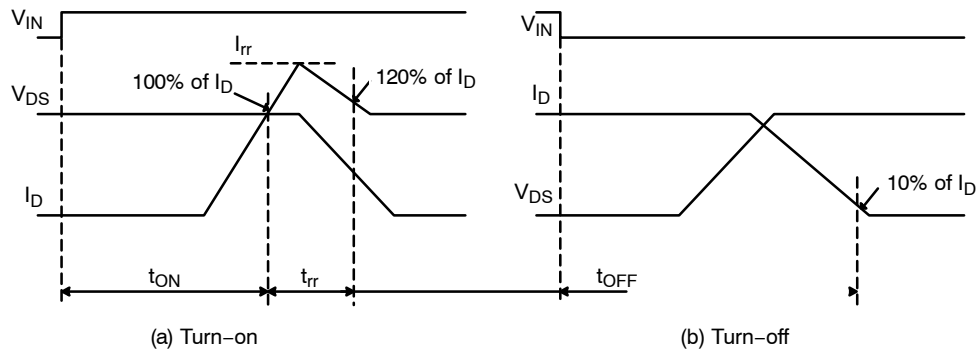
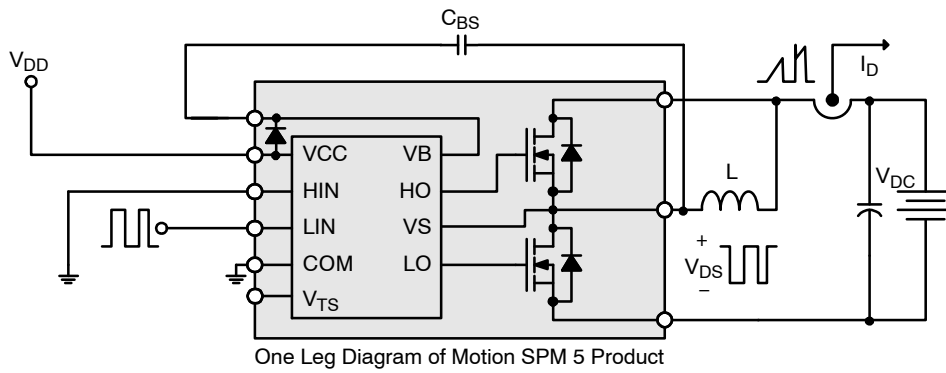

Figure 6. Switching Time Definitions
Figure 7. Switching and RBSOA (Single-Pulse) Test Circuit (Low-Side)
5.  $t_{ON}$  and  $t_{OFF}$  include the propagation delay of the internal drive IC. Listed values are measured at the laboratory test condition, and they can be different according to the field applications due to the effect of different printed circuit boards and wirings. Please see Figure 6 for the switching time definition with the switching test circuit of Figure 7.
6. The peak current and voltage of each MOSFET during the switching operation should be included in the Safe Operating Area (SOA). Please see Figure 7 for the RBSOA test circuit that is same as the switching test circuit.